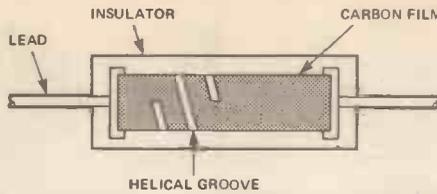

Figure 3. How a carbon film resistor is made-up.
- 2) Carbon film resistor (Figure 3).